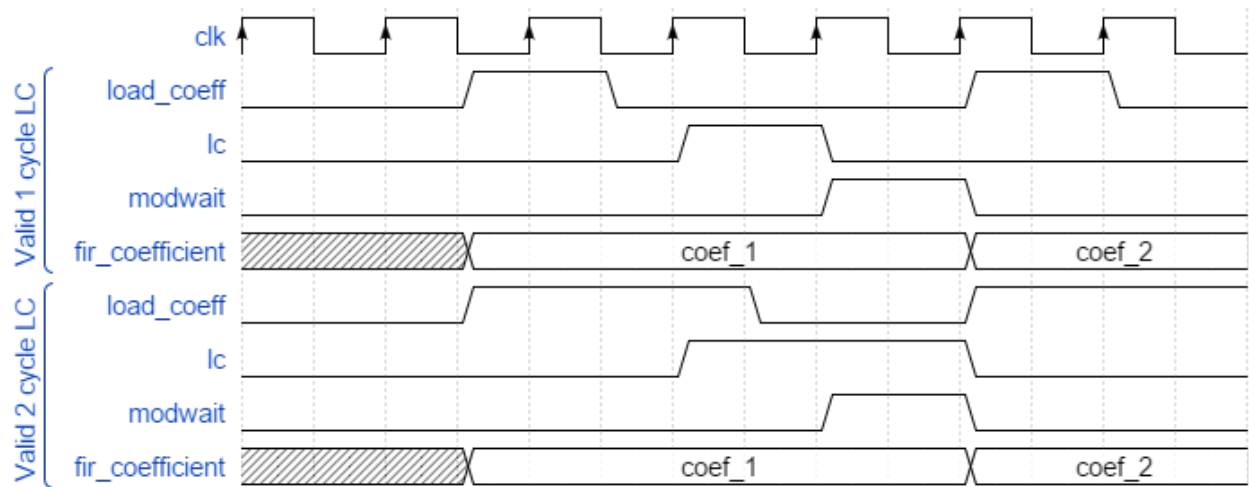

Figure 5: Allowed Load Coefficient Timing Sequences
**FIR Coefficient Loading** Figure 5 illustrates the allowed timing sequences for loading coefficients into the design. When in the IDLE state and the load\_coeff signal is asserted, the control unit must handle loading the new four coefficient values into four registers of your choosing and clear the counter. Lower the modwait signal after storing each coefficient to indicate the control module is ready to receive the next coefficient. Four coefficients will be used in this design. F0 will be sent first and F3 will be sent fourth. The control module only needs to allow coefficient loading or data sample processing sequences to start while in IDLE. Once either of the sequences has started it must run to completion before a new sequence (either coefficient loading or sample processing) is allowed to start. FIR filters operate on the current sample and several relative-to-time older data samples, 1 current and 3 older data samples for this filter. It is important to note that you have to perform this algorithm in multiple cycles since you have a datapath that can only perform 1 operation per cycle. Loading of the coefficient is allowed to take up to 5 cycles (5 cycle long active modwait) per coefficient but realistically it can simply be done in 1 cycle per coefficient.